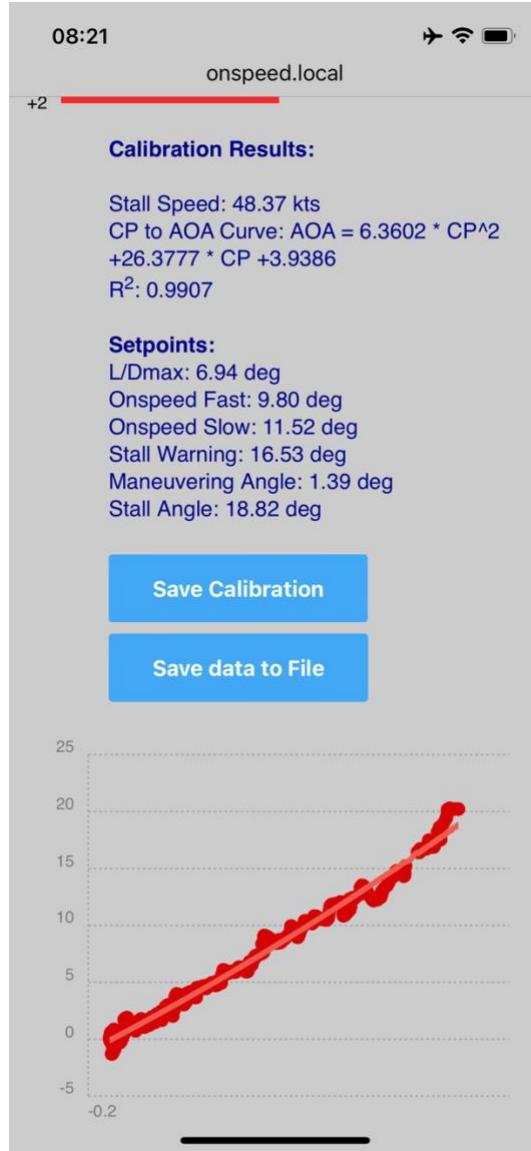

Figure 22. Post-calibration display (IMU Calibration Source).
*Quality of the calibration.* Three things should be considered when assessing the quality of a calibration attempt: the  $R^2$  value, the shape of the regression line (curve) and the shape of the data plot. The  $R^2$  value should be .98 or higher. The regression line curve should be concave to linear (NOT convex), and the data plot should be relatively smooth. A good calibration is shown in Figure 20. The key to this quality is the smooth AOA/pitch rate increase to the stall. Figure 22 shows a good automatic calibration using the internal IMU as the calibration source. This figure was derived using software version 3.2.3.g3 with first generation Kalman filtering.